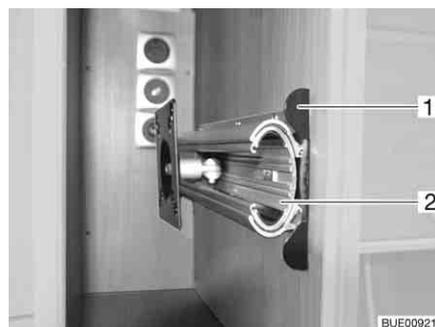

Fig. 54 Holder in the TV cabinet
- Push the unlocking bar (Fig. 54,1) in.
- Pull out the extension (Fig. 54,2) as far as possible.
- Push in the extension (Fig. 54,2) until the unlocking bar (Fig. 54,1) engages.